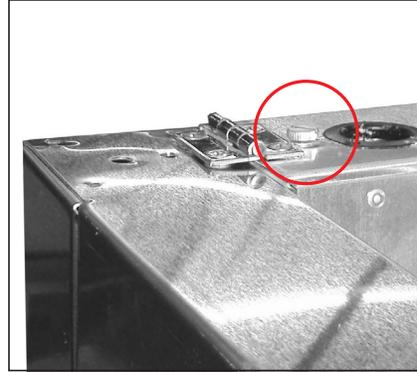

Fig. 1. Thumbscrew location.
2. Locate the thumbscrews from the top of the cabinet. See fig. 1.